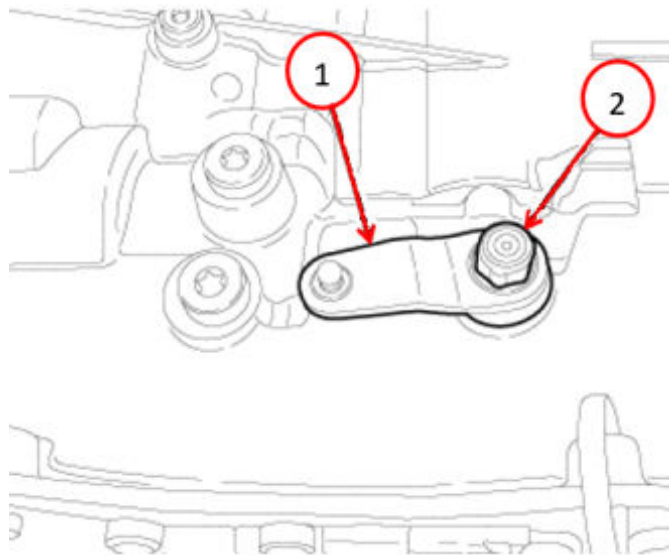

Fig. 49
71. Remove the tie strap and return the MPR lever to its original position Fig. 49.